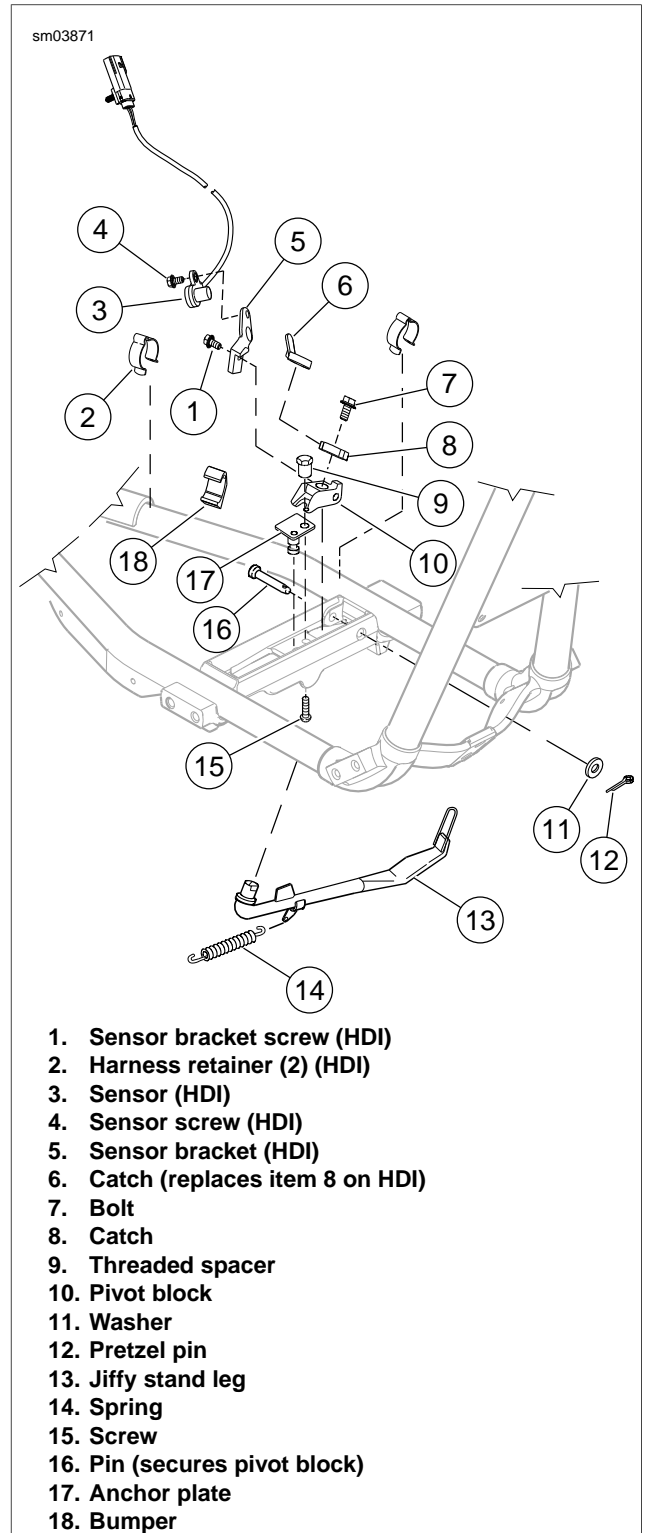

Figure 2-114. Jiffy Stand
2. See Figure 2-114. Inspect top of catch (6). If covered with dirt, wipe dirt off with a shop towel and spray catch and mating surface with LOCTITE AEROSOL ANTI-SEIZE.
3. Move jiffy stand leg (3) forward and back to infuse anti-seize into mating parts.
4. If catch is covered with mud/grime, remove bolt (7) and catch (6).
5. Clean catch (6) and pivot block mating surface (5).
6. Spray LOCTITE AEROSOL ANTI-SEIZE on shaft of jiffy stand leg and pin (2) to lubricate the mating surface between pin and pivot block (5). Move leg back and forth and downward while spraying lubricant.
7. Assemble the catch so it engages the flats on the shaft of the jiffy stand leg and secure with bolt (7).
8. Tighten bolt (7) to 19 ft-lbs (25.8 Nm).
1. See Figure 2-114. Make a note of harness routing for ease of assembly. Disconnect sensor connector located under the seat.
2. Remove cable anchors (2).
3. Remove screw (4) and remove sensor (3).
4. If necessary, remove screw (1) and remove sensor bracket (5).
2. See Figure 2-114. Remove cotter pin and washer (10) from pin (2). Discard cotter pin.
3. Detach spring (8) from jiffy stand and anchor plate (9).
4. Pull pin (2) from between frame tubes. Jiffy stand and pivot block components will drop as an assembly.
1. See Figure 2-114. Place pivot block (5) and jiffy stand (3) assembly between frame tubes.
2. Insert the pin (2) from direction shown through frame tubes and pivot block (5). Secure with washer and a **new** cotter pin (10).
3. Attach spring (8) to anchor plate (9) and jiffy stand. When properly installed, hook on spring side connected to jiffy stand faces upward.